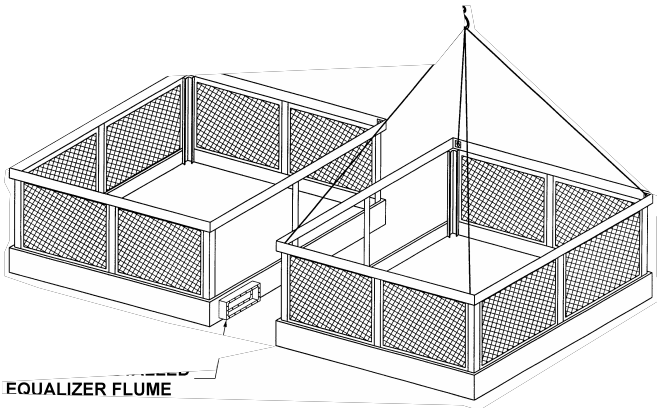

Figure 4 - Equalizer Flume Rigging Detail
4. Rig the second basin section adjacent to the equalizer flume on the steel support as shown in Figure 4.